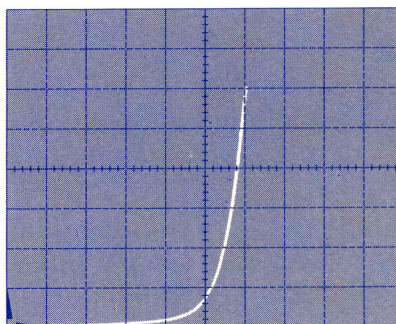

Figure 2-2. Display of V_F (junction diode voltage) in expanded mode.
- 6) Measure exact diode voltage drop (optional) — If extremely precise standoff measurements are required, junction diode voltage drop may be easily measured. Turn VARIABLE COLLECTOR % to minimum, VERT UNITS/DIV to smallest value at least 1/6 of specified I_F [$2 \mu\text{A}$], HORIZ VOLTS/DIV to 0.1 V, and FUNCTION switch to EMITTER GROUNDED, BASE TERM, OPEN. Press ERASE. Advance VARIABLE COLLECTOR % until vertical displacement equals specified I_F . Read corresponding diode voltage from horizontal scale factor. Recalculate applicable quantities using this number instead of 0.5 V for diode drop. See Figure 2-2. **8 22 32 2 33**